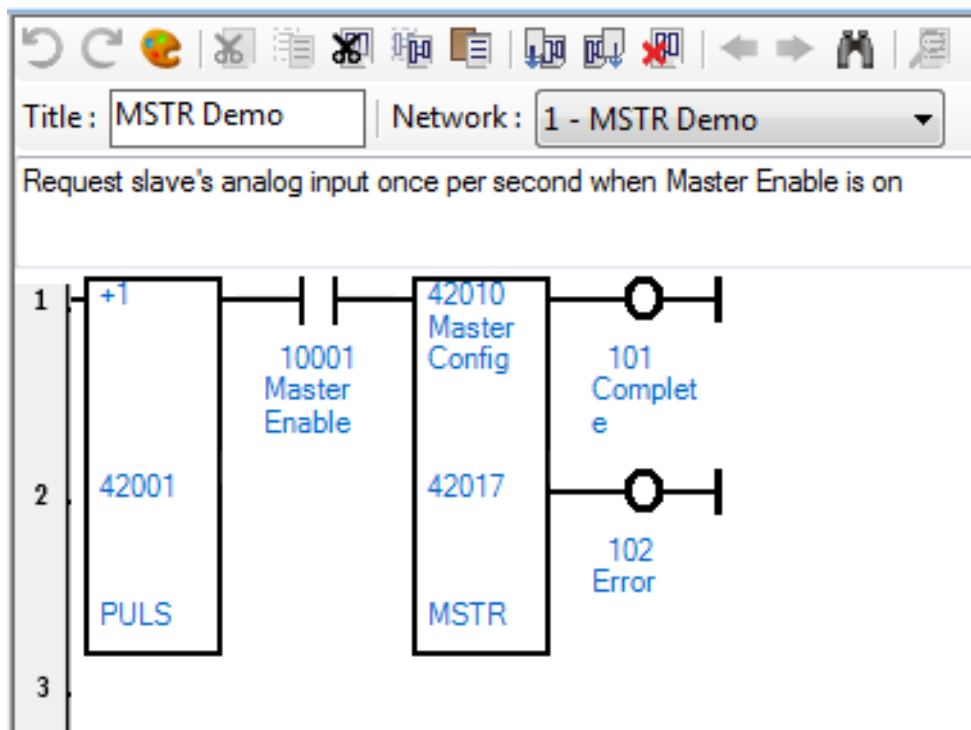

Figure 57: Ladder logic for MSTR demonstration
- Enter the ladder logic as shown in Figure 57.